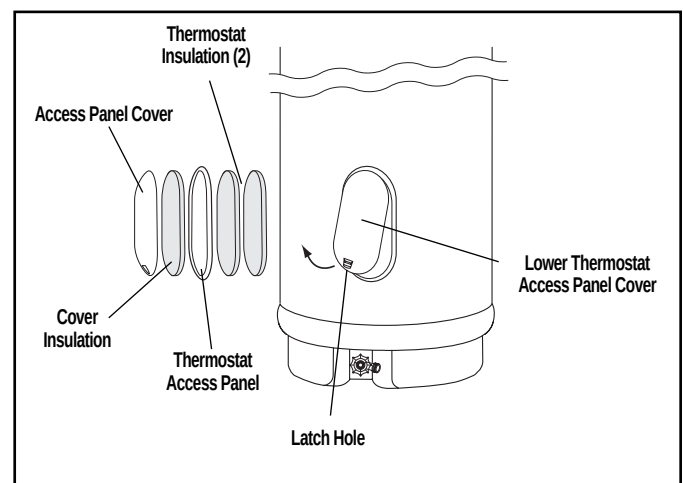

Figure 12 — Removing Lower Thermostat Access panel.
- Remove the lower thermostat snap-in access panel cover. Insert finger into latch hole on the bottom of the cover, and push up to release the latch. Then pull forward to remove the cover and insulation. (See Figure 12.)